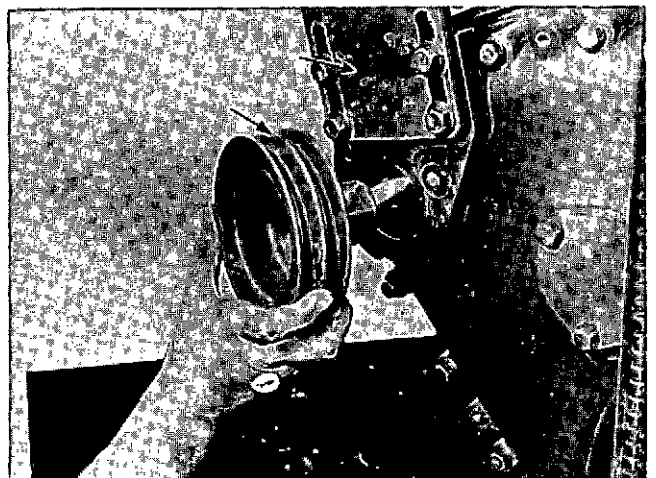

Fig. 14-1-53, V414153. Install auxiliary drive pulley
15. Insert drive pulley key in auxiliary drive shaft and mount pulley with flatwasher and nut, as used. Fig. 14-1-53.